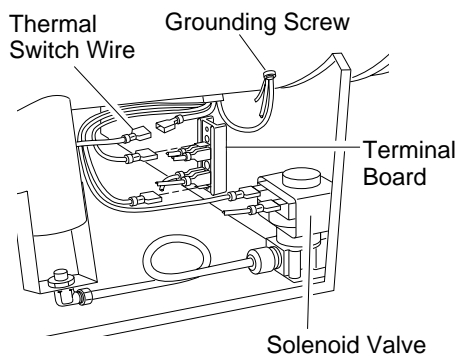

Figure 6 - Location of Motor Wires
21. Connect motor wires as follows (see Figure 6):